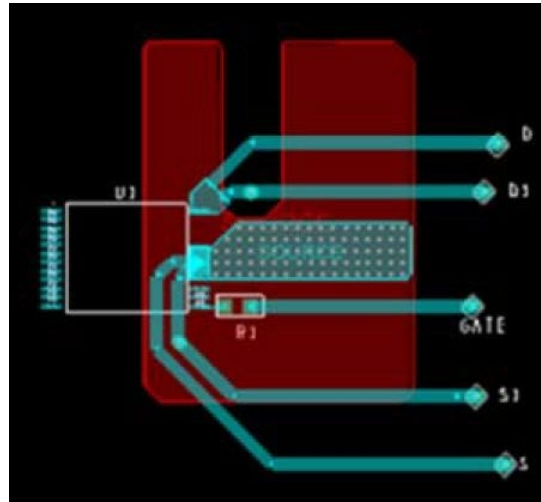

Figure 22. Thermal Resistance Test Conditions for PowiGaN Devices (LYT6079C and LYT6070C.)
Testing performed on custom thermal test PCB as shown in Figure 22. The test board consists of 2 layers of 2 oz. Cu with the InSOP package mounted to the top surface and connected to a bottom layer Cu heat sinking area of 550 mm2.
- Please see Figure 22.